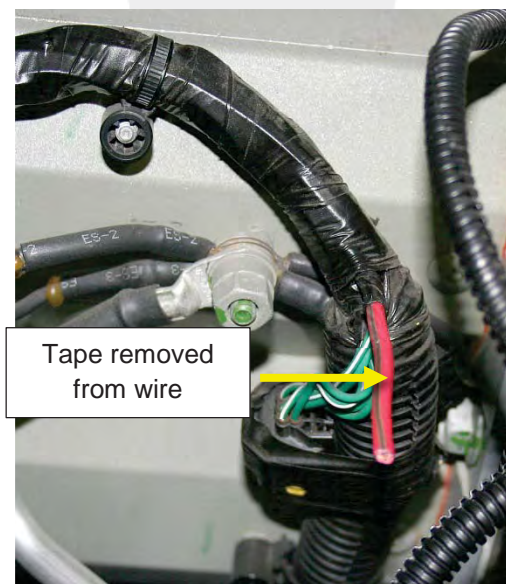

Figure 9
11. Remove the tape from the remaining vehicle-side jump post wire (Figure 9).